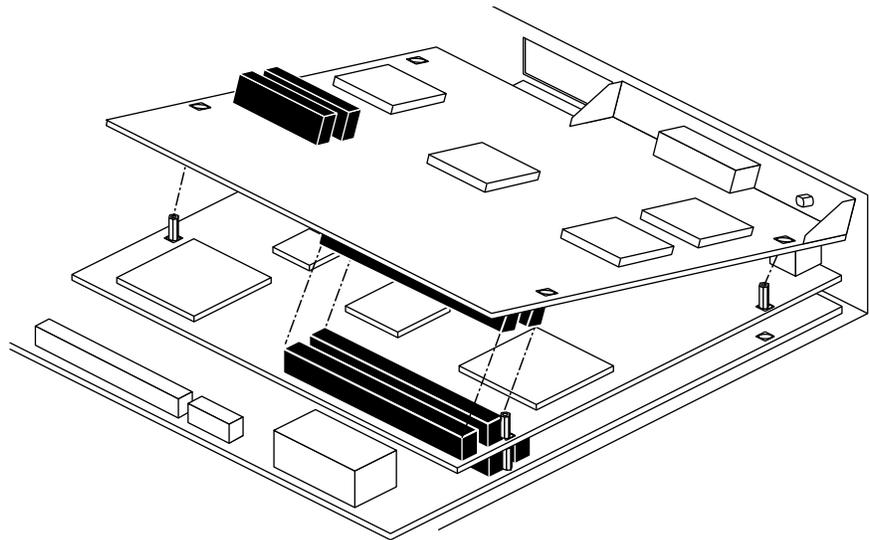

Figure 1-35 Positioning the X Board Over the Z Board
- Grasp the X board by the sides, with the two 96-pin male connectors on the underside, as shown in Figure 1-35.
- Loosely place the X board on top of the Z board so that the two male connectors on the underside of the X board align with the two female connectors on the Z board, as shown in Figure 1-35.
If the screw holes are not aligned, the board may not be seated all the way. When you look down at the board, the screw holes on the board must be lined up above matching standoff screws on the board below. (See Figure 1-35 if necessary.)